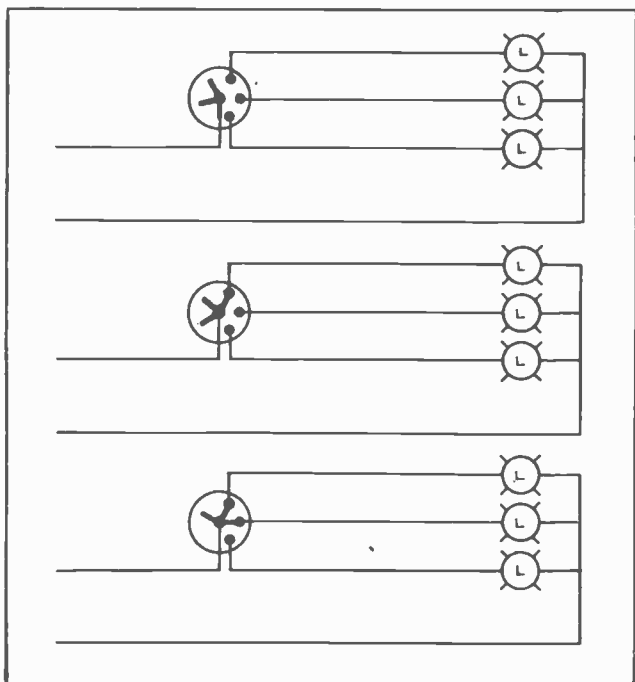

Fig. 26. These three diagrams show the manner in which an electrolier switch can be used to turn on one or more lights at a time.
**Electrolier Switches** are used to control one or more circuits, such as several lights on a chandelier, or the several sections of a heater element in an electric range, etc. These switches are obtainable with two or three circuits. Fig. 26 shows a method of connecting a three-circuit electrolier switch to turn on one, two, or all three of the lamps; or turn them all off, if desired. In the upper view all lamps are out, in the center view only one lamp is on, and in the lower view two lamps are on. If the rotating element of the switch were turned one more point to the right all three lamps would be on.